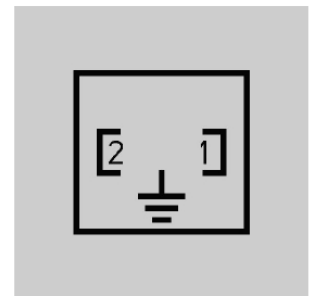

Fig.6.3
6. Connect the electromagnet assembly connectors. (See pin out in fig. 6.3)